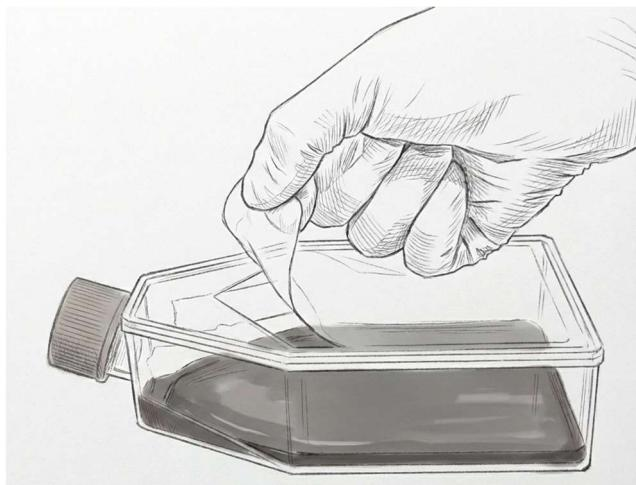

Figure 1. Opening the peel-off foil
- Grab the foil flap with the other hand and gently pull the foil back (Fig. 1).